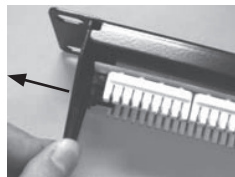

Figure 3.
C. Take off the support bar before punching wires. (Figure 3)